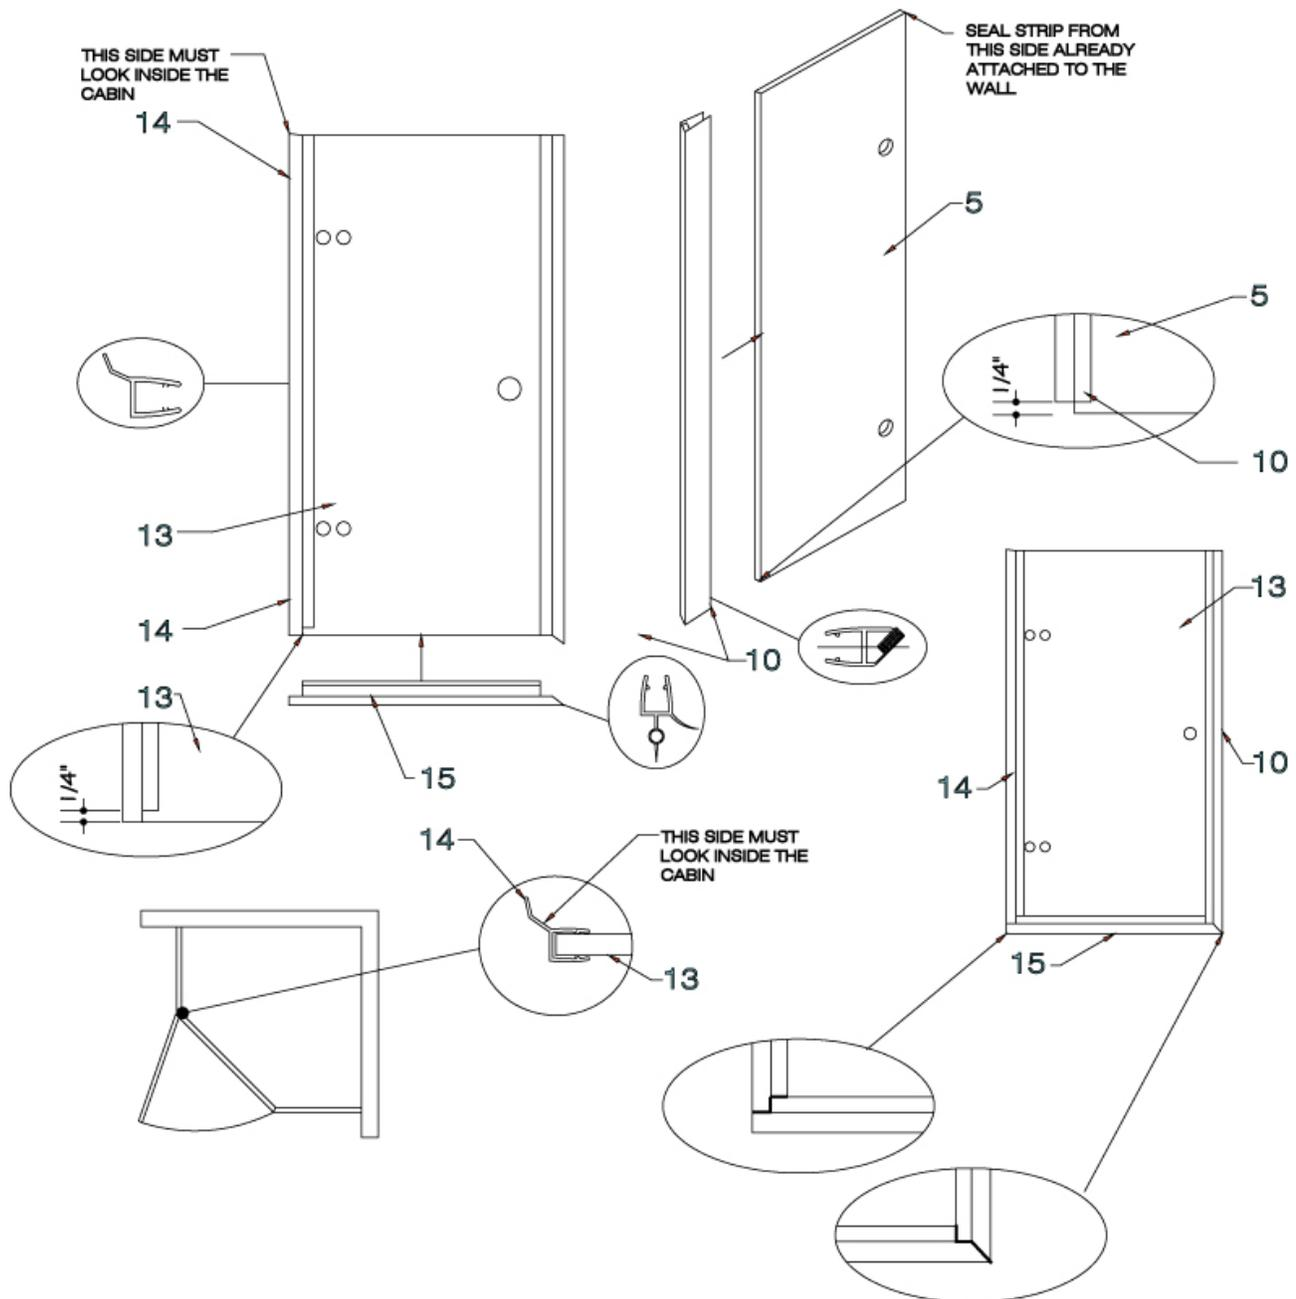

FIG.7 SEAL STRIP INSTALLATION
2. Cut the seal strips according to the diagram. [SEE FIG.7]